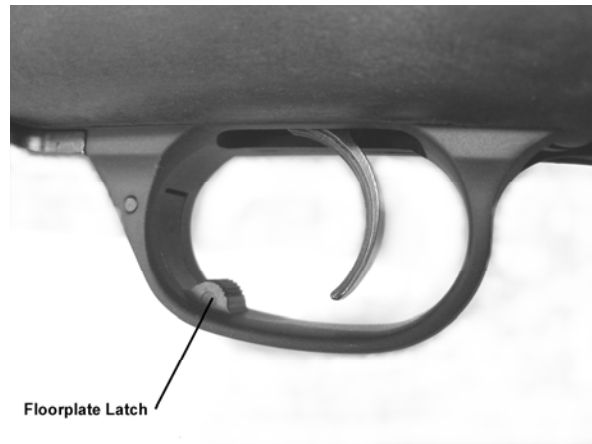

Fig. 4
4. To unload the magazine, open the floor plate by depressing the floor plate latch. (fig 4). The floor plate will swing out, allowing the cartridges to drop free. Do not allow the cartridges to fall to the ground as they may be damaged or become dirty making loading and chambering more difficult. Subsequent loading of a damaged cartridge may cause a live round to become jammed in the chamber of the firearm resulting in an unsafe condition.